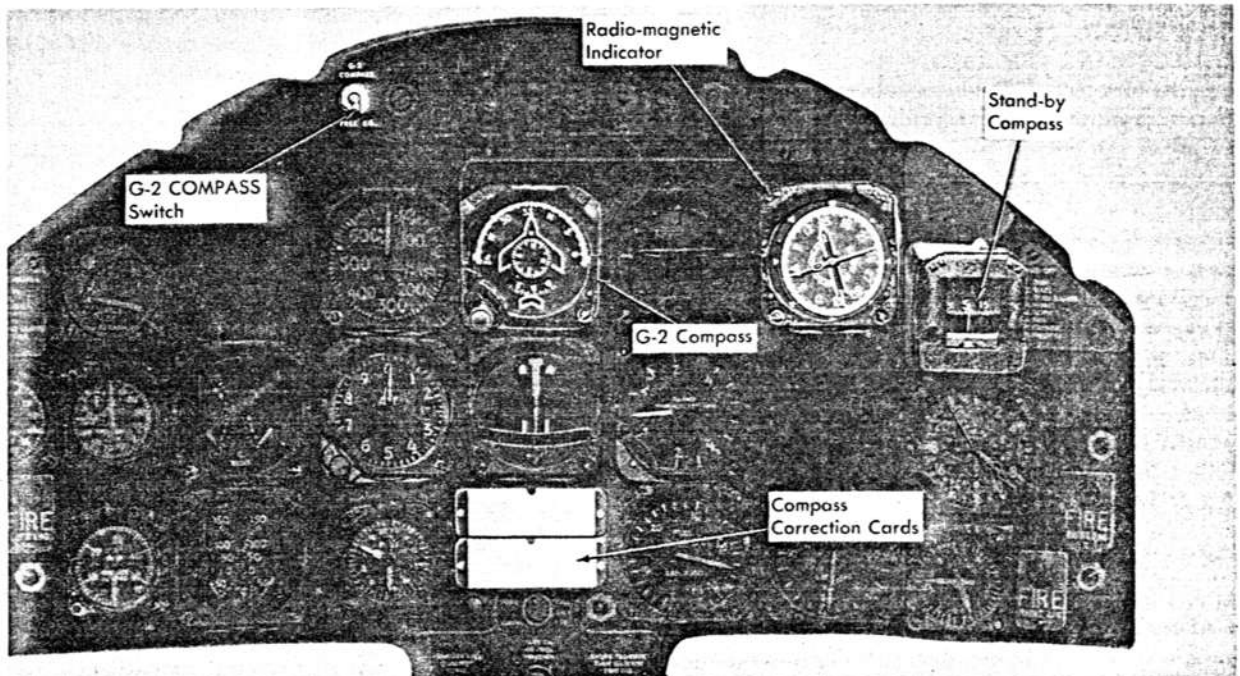

Figure 4-12. Navigation Instruments and Controls
**G-2 COMPASS.** (See figure 4-12.) The G-2 compass consists of a master direction indicator, a remote compass transmitter in the right-hand wing tip, and an amplifier. An adapter is also used to convert the transmitter signals to the type of current necessary for operation of the radio-magnetic indicator. The G-2 compass is essentially a directional gyro which is slaved to a magnetic compass to provide a stabilized directional indication which is at all times accurate to within  $\pm 3$  degrees of the compass heading of the airplane. The indicator may also be operated alone as a directional gyro (no slaving action) in magnetically unreliable places such as polar geographical areas or aboard ship. Control of the mode of operation of the unit is accomplished by movement of the G-2 COMPASS switch. When the switch is turned to "G-2 COMPASS," the slaving feature is in operation. If the switch is turned to "FREE D-G," the unit then operates as a conventional directional gyro.
**RADIO-MAGNETIC INDICATOR.** The radio-magnetic indicator (figure 4-12) combines indications of the ARN-6 radio compass, the ARA-25 direction finder group, and the G-2 compass system's remote compass transmitter to provide all information needed by a